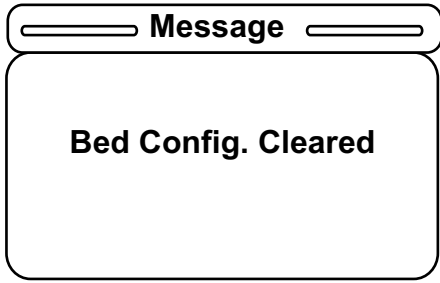

Figure 63 – Bed Config. Cleared message
36. After you press **Enter**, the previously set Bed Configuration items (Bed Type, Bed Options, Serial Number, Height Limits, and Fowler Limits) will be erased and the **Bed Config. Cleared** message displays (Figure 63).